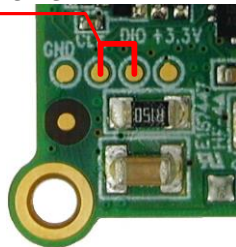

Figure 5.1 Reset to factory default settings
For this procedure two pads on the bottom side of the board have to be shortened (see Figure 5.1).
2. Short two pads as marked in Figure 5.1